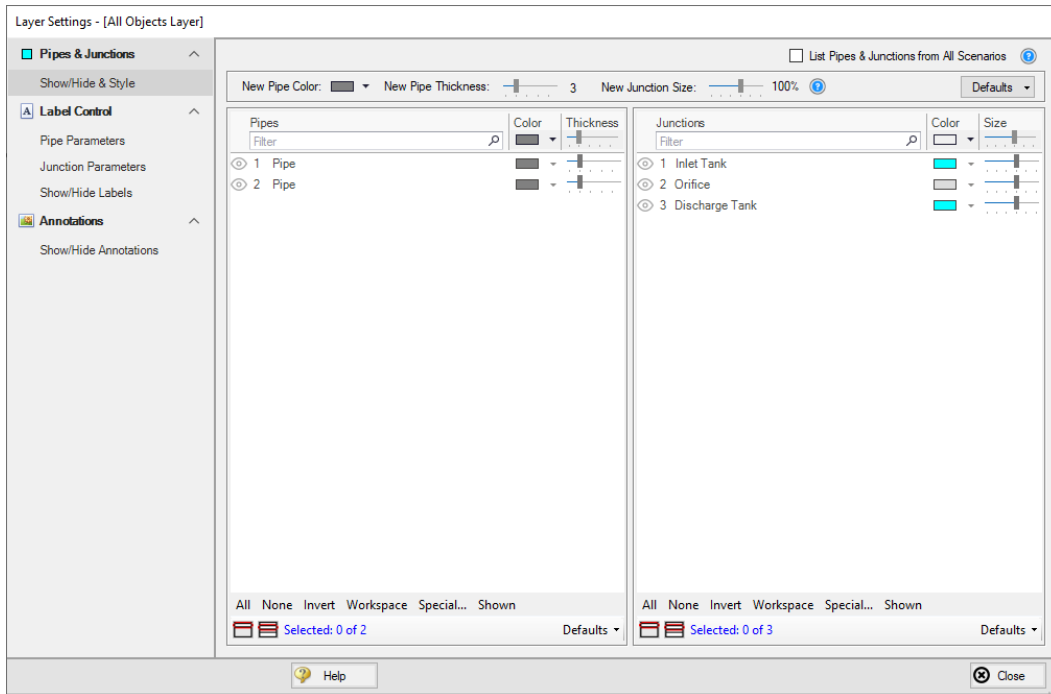

Figure 2.18 The Layer Settings window specifies content to be superimposed on the Workspace
- **Open the Layer Settings window for the All Objects Layer** by double-clicking the All Objects Layer, clicking the gear icon to the left of the layer name, or selecting the layer and clicking the single gear icon on the Layers Toolbar (Figure 2.18).